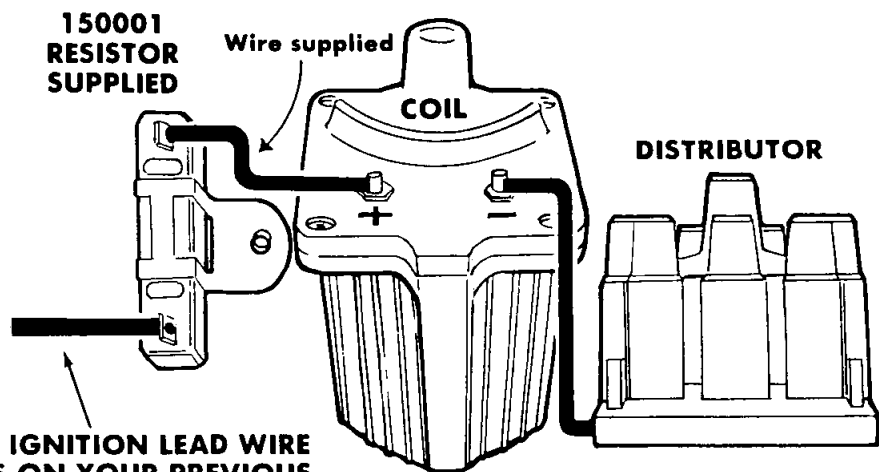

Figure 3
4. Using 1/4" Dia. metal screws, mount Super Coil and Resistor as shown in Fig. 3.
9. Completed installation should be wired as shown in Fig. 3.